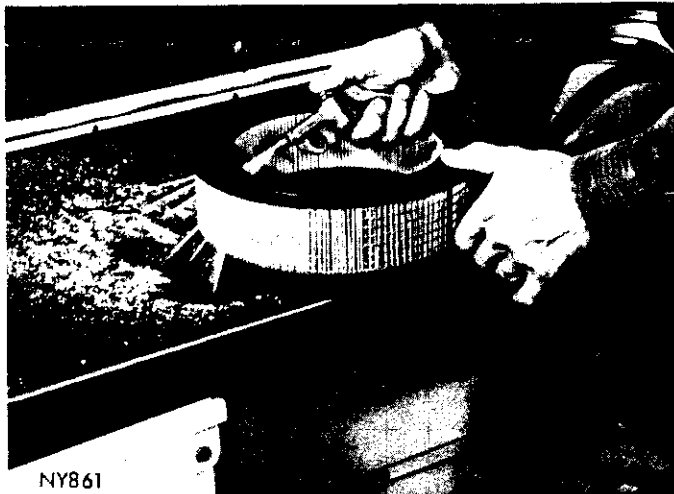

Fig. 3—Cleaning Filter Element
(8) Reset ignition timing with vacuum advance line disconnected. Ignition timing should be set to compensate for altitudes and/or gasoline grades.
(9) Set carburetor idle mixture adjustment. Adjust throttle stop screw to specifications. Perform a combustion analysis.
(10) Test fuel pump for pressure and vacuum. Refer to "Fuel System" Group 14, Specifications.
(11) Inspect manifold heat control valve in exhaust manifold for proper operation and apply Manifold Heat Control Valve Solvent Part Number 2525054 or equivalent to bushing and shaft.
(12) Every 6 months remove filter element and blow out dirt gently with an air hose. Direct air from inside out, and keep nozzle 2 inches away from element to avoid damaging. Clean metal housing and install element. Every two years, install a new factory recommended filter element or equivalent. Service unit more frequently when driving under severe conditions, such as in dusty areas (Fig. 3).
(13) Inspect crankcase ventilation system as outlined on page 85.
(14) Inspect and adjust accessory belt drives referring to Cooling System, Group 7 for proper adjustments.
(15) Road test vehicle as a final test.